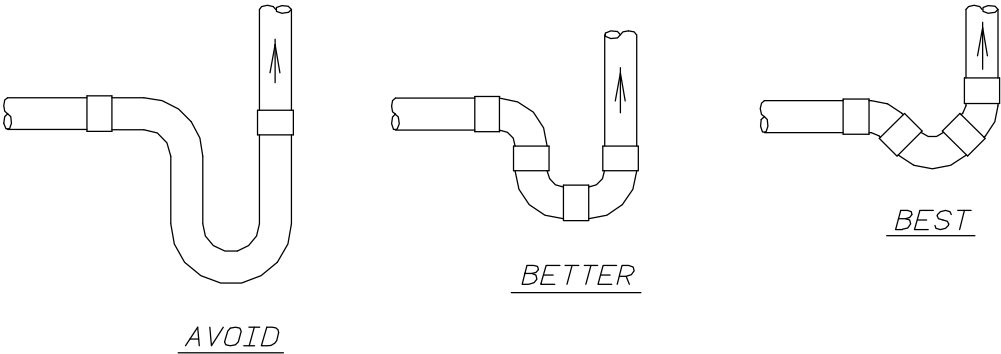

FIGURE 3-9
6. Traps must be installed in discharge lines at the base of all vertical risers. There should be no intentional traps in liquid lines. Trap volume should be kept to a minimum. Long vertical rises should have traps every 20 feet. Typical details are shown in FIGURE 3-9.